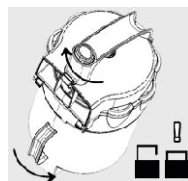

Figure 18
5. Again lock the cover on the dust container, turn it in the opposite direction (Figure 18).